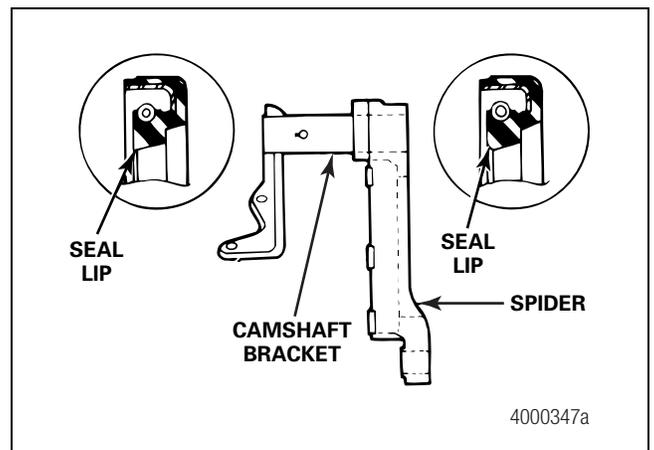

Figure 4.12
3. Install the seals with their lips toward the slack adjuster. Figure 4.12.